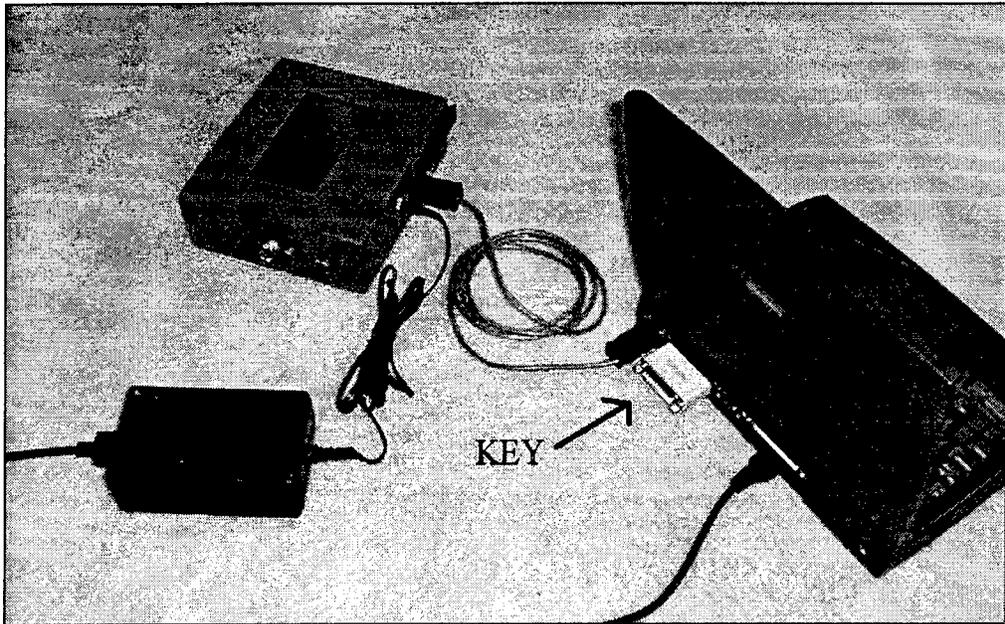

Figure 3-14. PC Connected to Analyzer with Key Installed.
33. **Connect the Analyzer to the PC with the serial port cable, install the key to the PC, and turn on the Analyzer.** The Analyzer can be powered by either the same DC battery cable connection or by the AC power adapter plugged into a standard wall outlet. Insert the SPT-PC key into the PC's parallel port. Figure 3-14 shows a setup using the AC power adapter with the key installed.